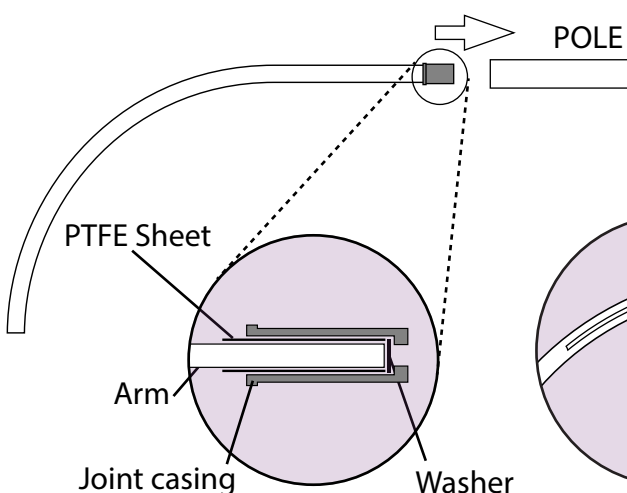

Fig 5.
5. Ensure that the PTFE sheet lines the inside of the joint casing and the washer is in the bottom before connecting the curved tube with the joint to the main pole. (see fig 5)